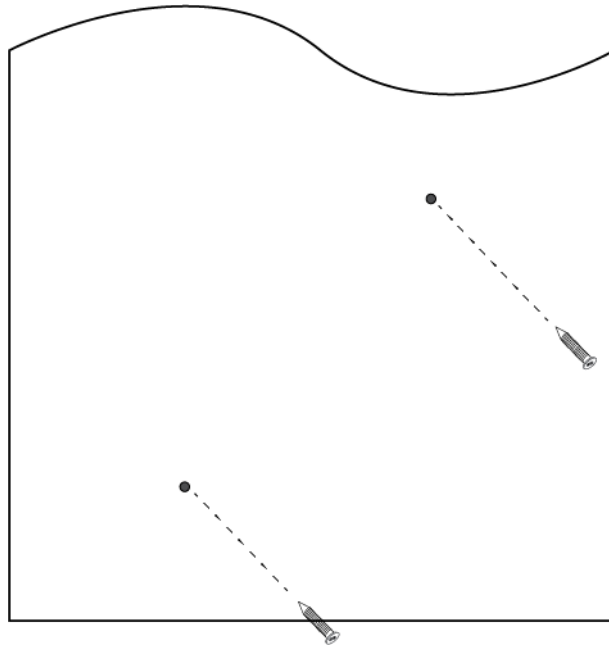

Figure 16. Installing Two Screws
5. Install two M4 screws and anchors (if required). Leave the screws loose enough so that the bracket can slide under the screw heads. Refer to Figure 16 on page 49.